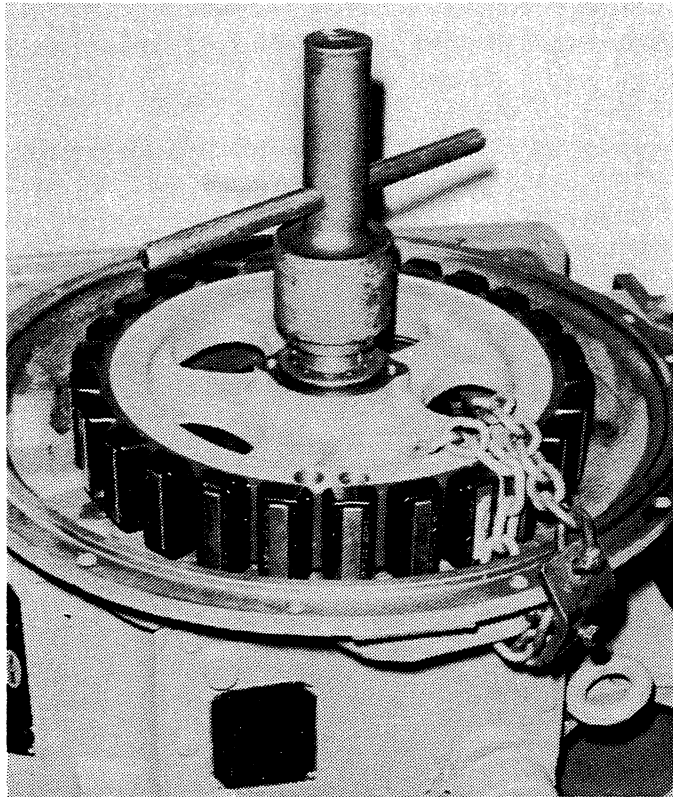

Figure 6-27. Removing or Installing Bearing Locknut.
10. Remove the bearing locknut. See Figure 6-27.